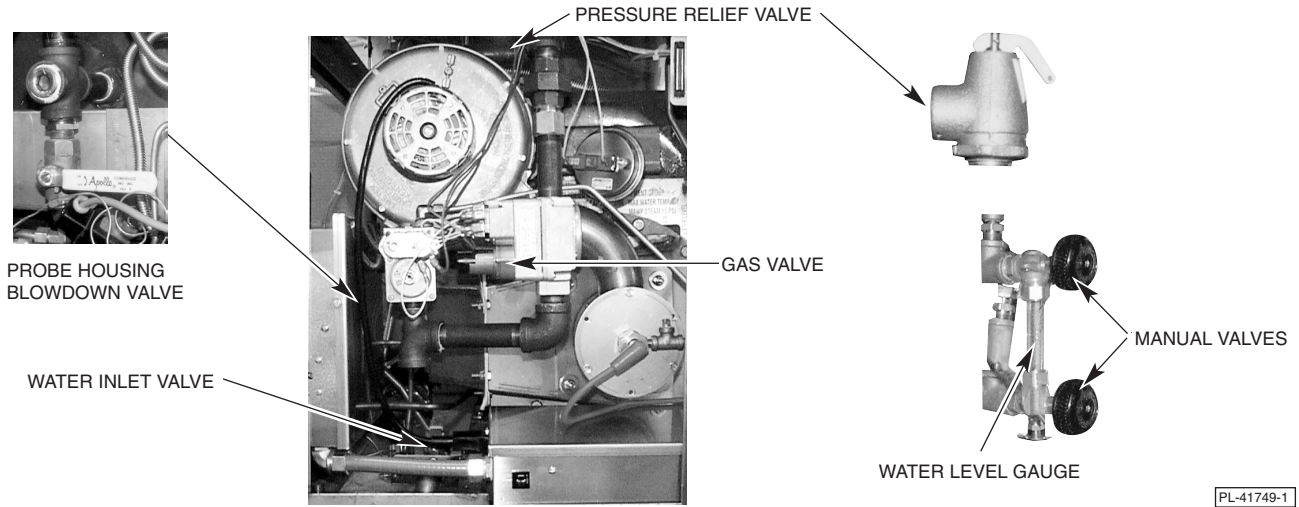

Fig. 3
- The manual valves at the top and bottom of the water level gauge (Fig. 3) must be fully open (counterclockwise).
### Gas Boiler (Fig. 3)